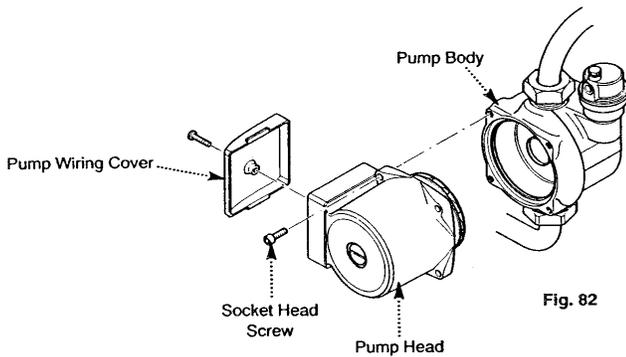

Fig. 82
11.20 Pump - Head Only (Figs. 82 & 83).